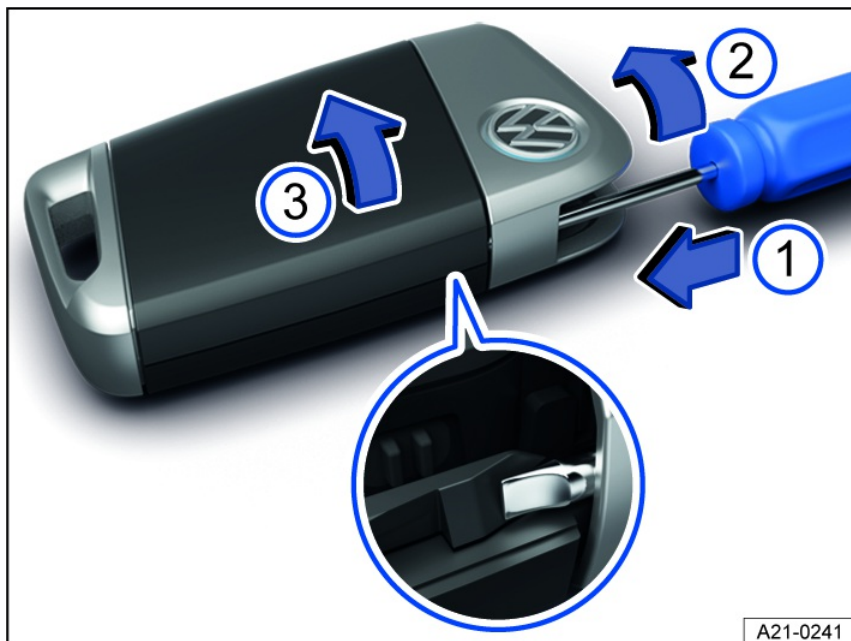

Fig. 54 Vehicle key: opening the battery compartment cover.
2. Slide the blade of the flat-bladed screwdriver in the direction of the arrow approximately 1 cm into the outer guide on the emergency key in the vehicle key *fig. 54*.
3. Turn the flat-bladed screwdriver clockwise until the cover pops up *fig. 54*.
4. Push the cover in the direction of the arrow and remove it *fig. 54*.
7. Press the cover out of the housing *fig. 54*, ⇒ ⌚.